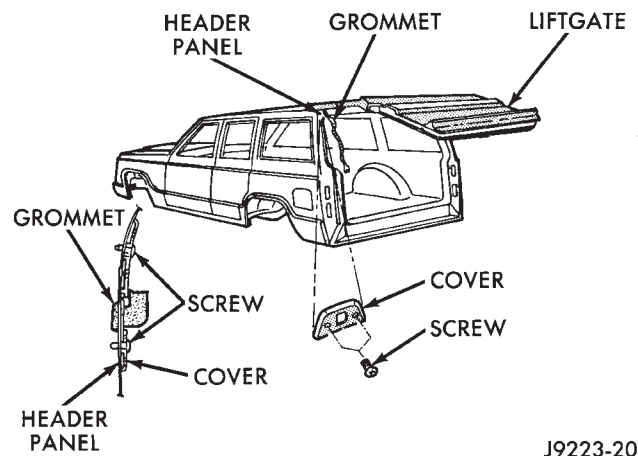
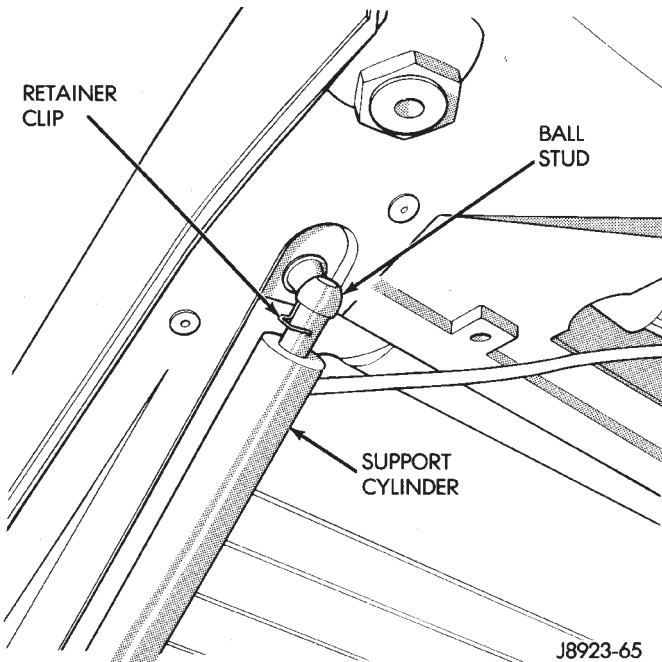

Fig. 112 Liftgate Wire Harness Trim Cover
Fig. 111 Support Rod Retainer Clip
- (3) Remove the retainer clips that secure the support rod cylinders to the ball studs (Fig. 111).
- (4) Remove the support rod cylinders from the ball studs.
- (5) Remove the screws and the wire harness trim cover from the liftgate header (Fig. 112).
(3) Install the liftgate-to-hinge screws. Tighten screws to 9 N·m (7 ft-lbs) torque.
(4) Install the liftgate (headliner) upper trim moulding (Fig. 111).